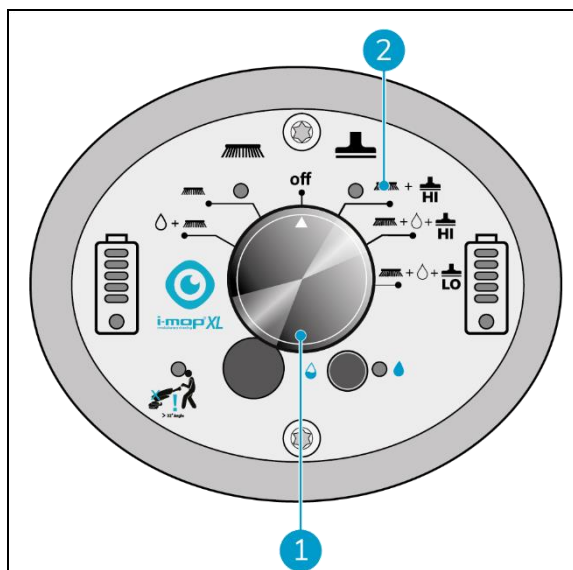

Figura 26
1. Utilizar o interruptor principal da i-mop XL Pro (Figura 26, pos. 1) e seleccione MODE 3 Brush + Dry vacuum (Figura 26, pos. 2).